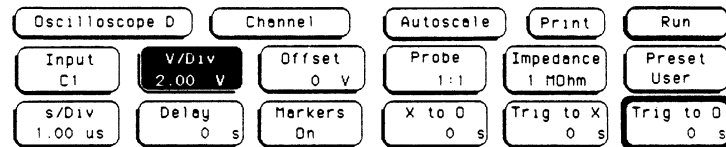

Figure 3-11. Set V/Div to +2 Volts.
- k. Touch **V/Div** and set to +2 Volts. See figure 3-11.